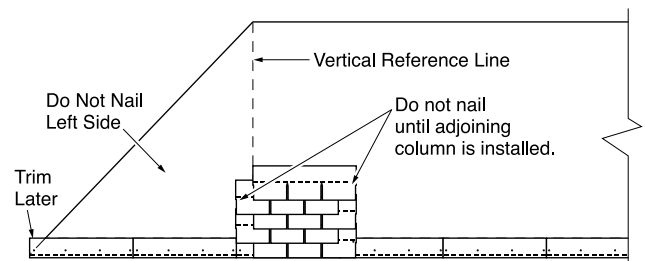

Figure 9-5: The Single-Column Rack
### B. Installing the Single-Column Rack (Figure 9-5)
4. Install the first shingle of subsequent courses by alternating the pattern of the second and third courses. For even-numbered courses, overlap the vertical reference line by half a tab and omit the left most nail. For odd-numbered courses, position the shingle flush with the line and omit the rightmost nail (Figure 9-5).